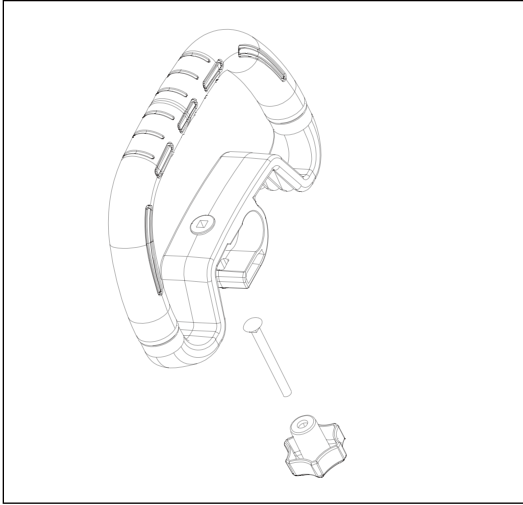

Fig. 5
1. Loosen the knob and lift up the handle to the operating position.(Fig.5)